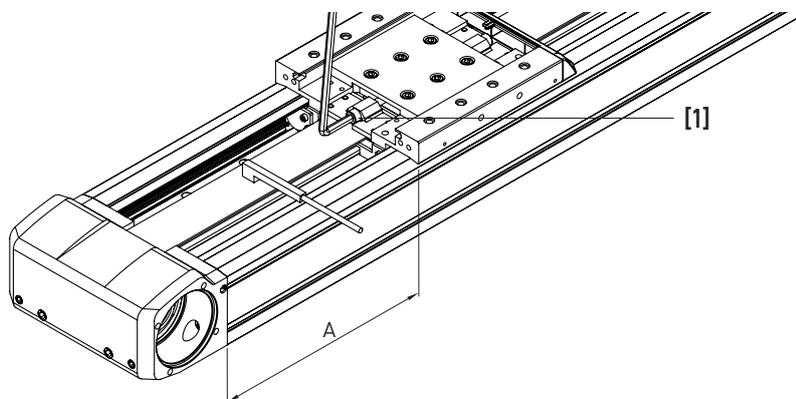
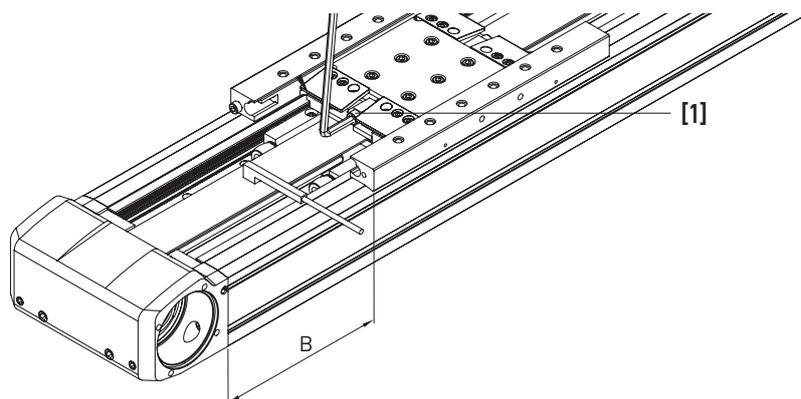

Fig. 7.32 Preloading the toothed belt: linear tables HT-B without cover strip
Fig. 7.33 Preloading the toothed belt: linear tables HT-B with cover strip
- ▶ Set the distance A/B (see Fig. 7.32 and Fig. 7.33) between the carriage edge and the edge of the drive block housing to the measurement shown in Table 7.6.